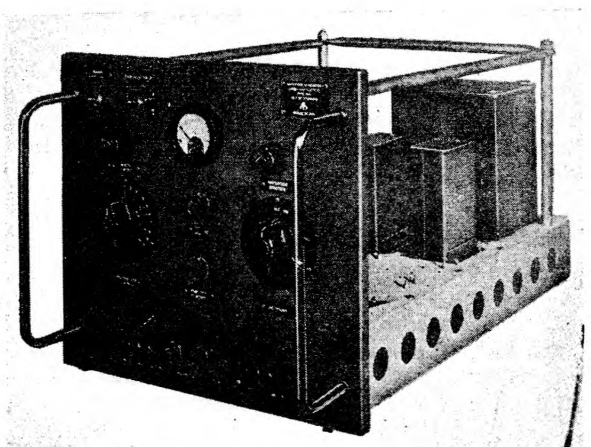

Fig. 1. Waveform generator (anti-sea clutter) type 104
2. The unit is fitted to those static coastal radar installations which experience wave clutter, i.e., to installations using low-looking radar heads. The unit is a standard Air Ministry "information generator" type chassis incorporating its own power supplies, and can be housed in any of the following rack assemblies:—Type 307, 308, 310 and 319. When used with CEW/B and CEW/D installations, the unit is housed in a spare rack assembly. Fig. 1 is a general view of the unit.